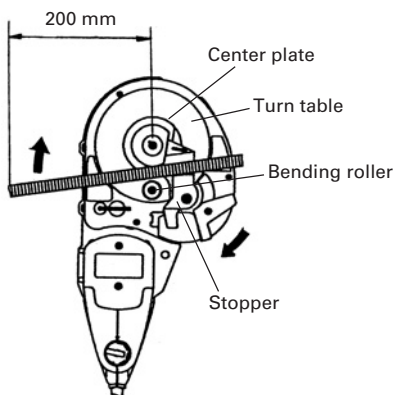

Fig. 9
- Reserve an extra length of at least 200 mm on the bending length of the rebar to be bent. (Fig. 9)
- (2) Make sure that the cover is closed.
- (3) Set the setting dial at the desired angle.
- (4) Place the rebar on the stopper of the center plate and set it correctly as shown in **Fig. 9**.
- (5) Pull the switch trigger and bent the rebar.
- (6) Continue pulling the switch trigger until the motor makes reverse rotation and the bending roller starts to return. (Once the bending roller starts to return, it will automatically return all the way to the home position even if the switch trigger is released.)